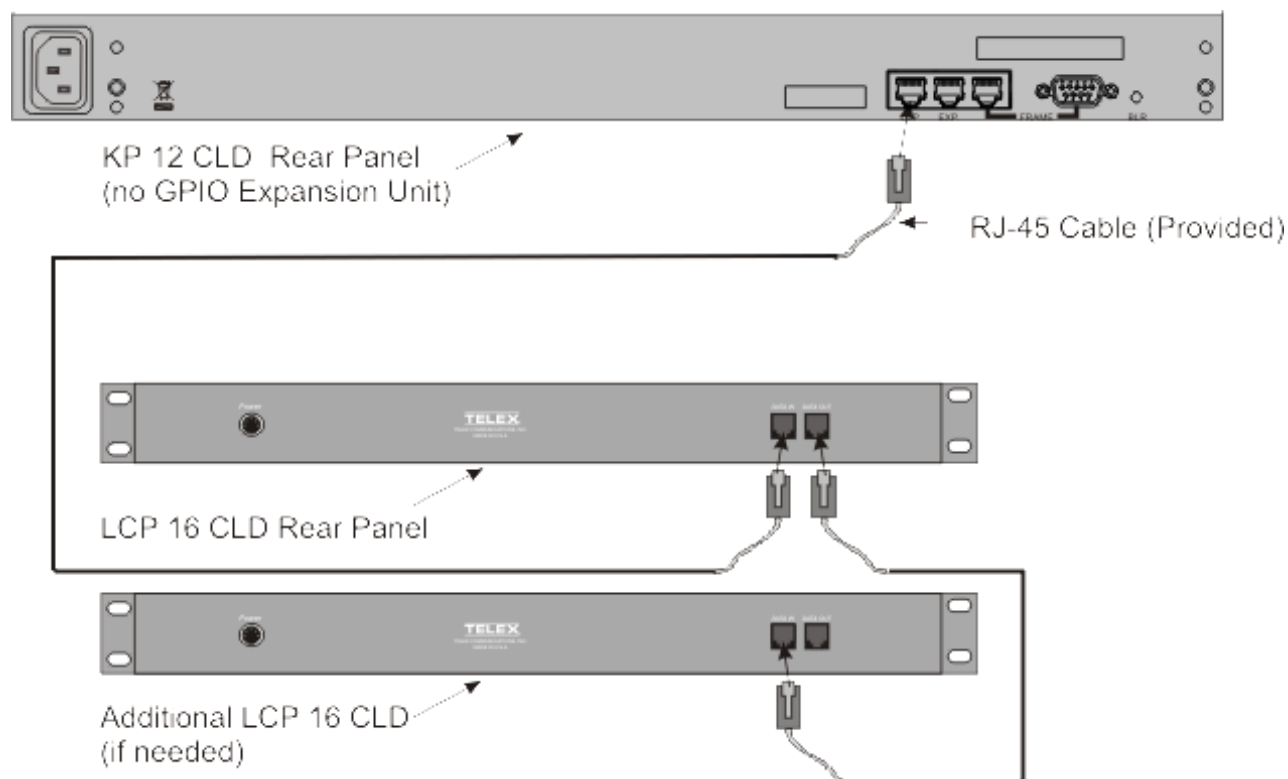

FIGURE 43. Hardware Setup for a KP 12 CLD and two (2) LCP 16 CLD
The **LCP 16 CLD Level Control Panel** is connected to KP 12 CLD keypanel and additional LCP 16 CLD panels, as shown in Figure 43. A maximum of three (3) LCP 16 CLD panels may be connected to one (1) KP 12 CLD keypanel.